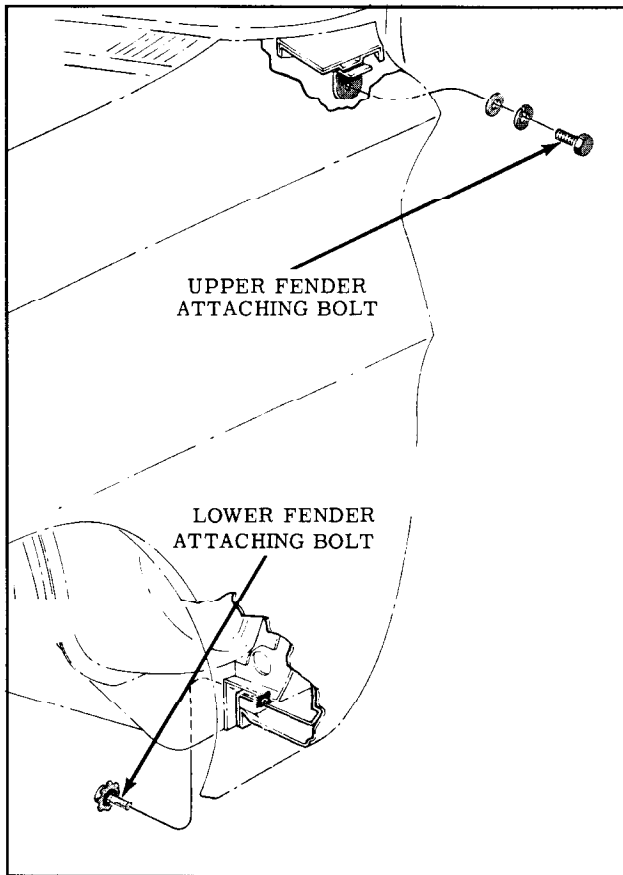

Fig. 11-12 Front Fender Rear Attachment
10. Remove the fender to inner rocker panel attaching bolt at the lower rear corner of front fender, and the upper fender to cowl attaching bolt as shown in Fig. 11-12.